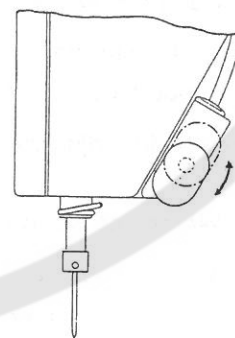

Fig. 18
4.5 Touch-Back Pushbutton (Fig. 18)
- (1) Normally, this pushbutton is used at the position shown in Fig. 18. When the sewing machine is operated after the pushbutton is pressed, reverse stitching is performed.
- (2) When the pushbutton is moved to the position indicated by the broken line in Fig. 18, the switch does not function even if it is pressed.